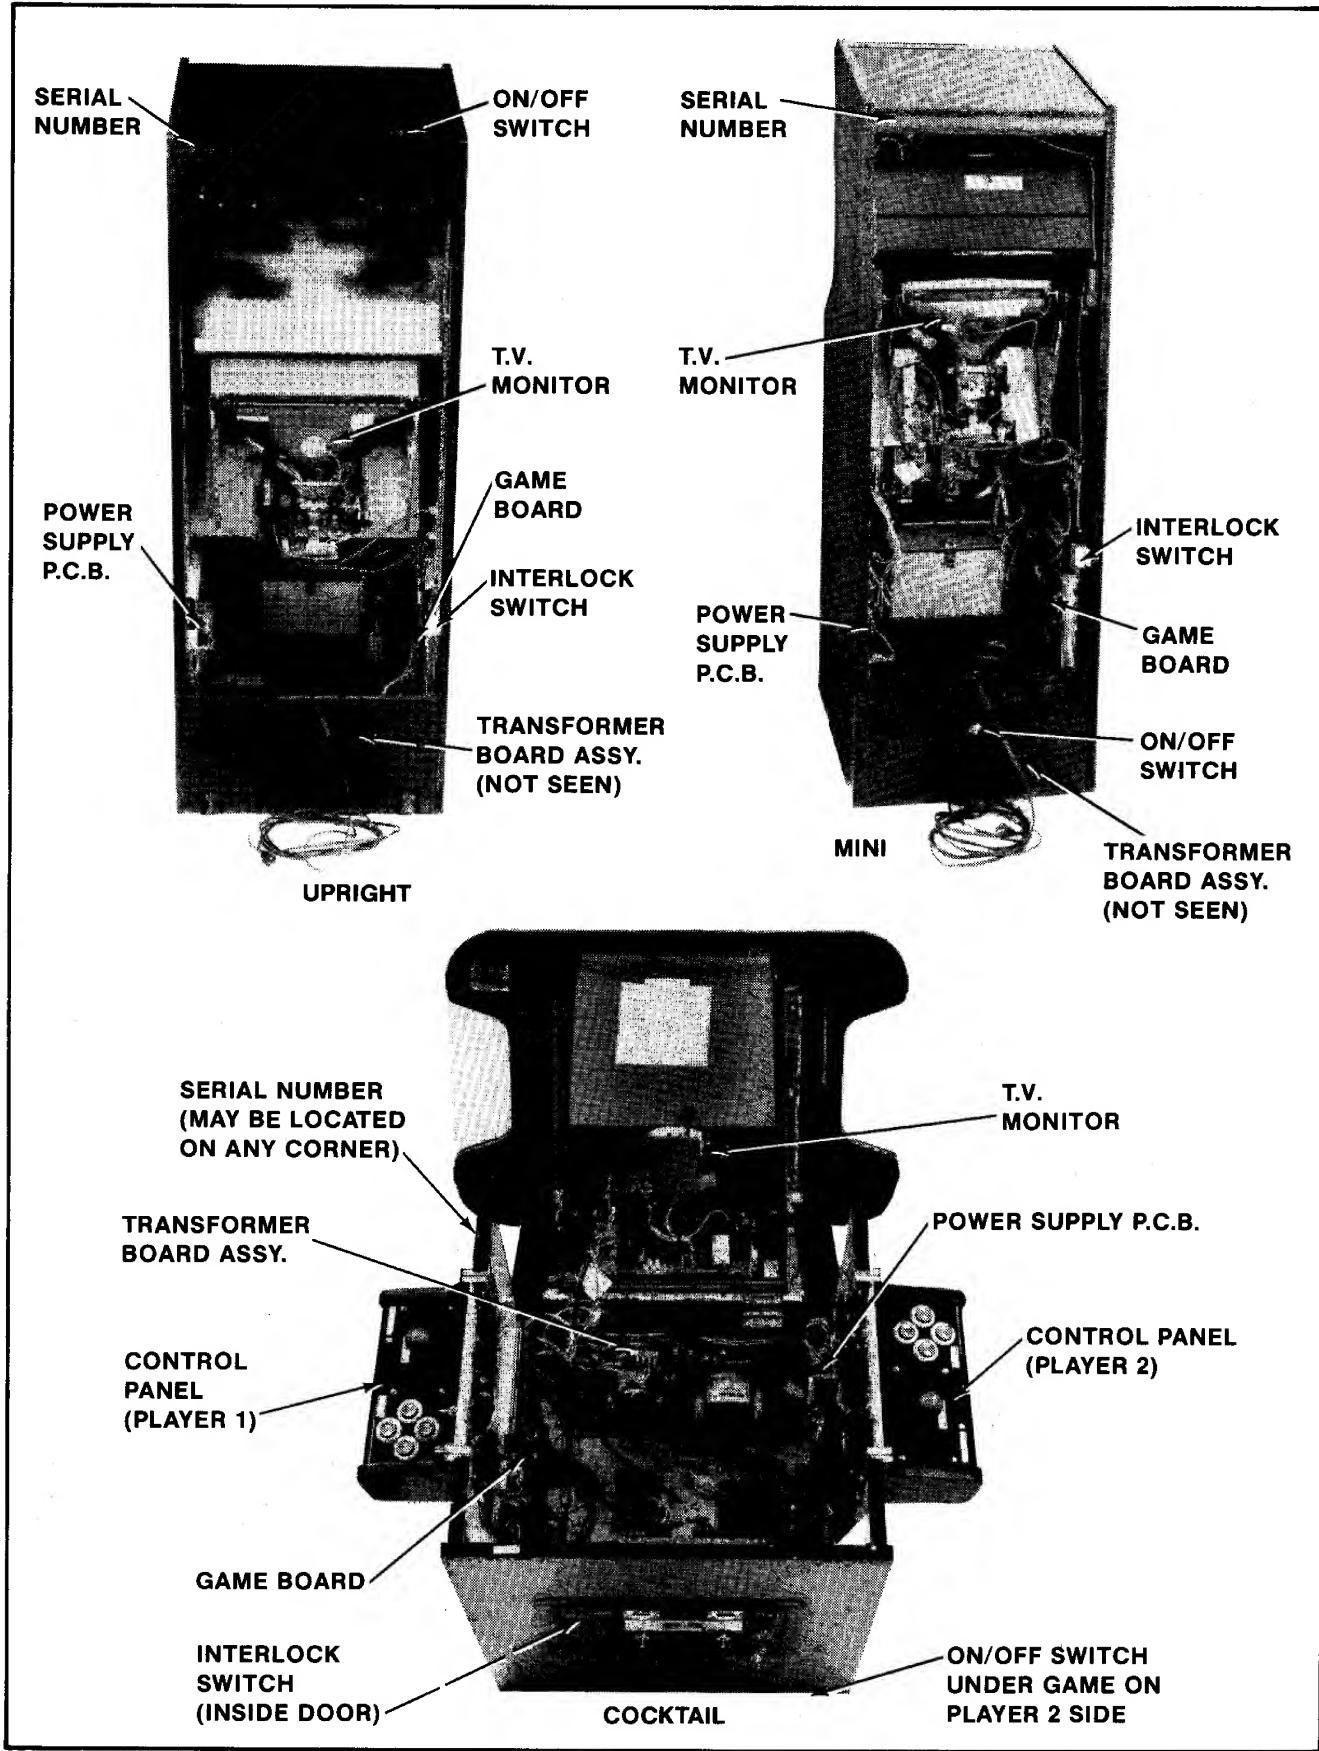

Figure 2-1 Location of Serial No., Interlock Switch, On/Off Switch & Major Sub-Assys.
5. Open the cabinet and inspect the inside of the game for any signs of damage. See Figure 2-1.
- Make sure all printed circuit boards (P.C.B.'s) are firmly seated in their connectors. See Figure 2-1. These connectors are also keyed. The P.C.B.'s will only go into them one way without being damaged.
- Note the location of the game's serial number. See Figure 2-1.
- Check all major subassemblies to be sure they are mounted securely. These are called out in Figures 2-1 & 2-2.
#### 3. Interlock and power ON/OFF switches. See Figure 2-1.
The game ON/OFF switches for all models are located as shown in Figure 2-1. Turn the game on and allow it to warm up a few minutes.